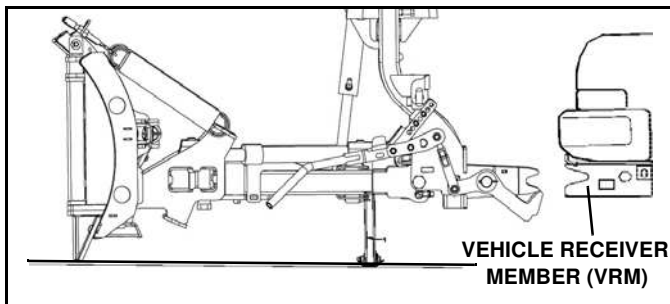

Figure 1-39
1. Drive truck up to plow. (See Figure 1-39).